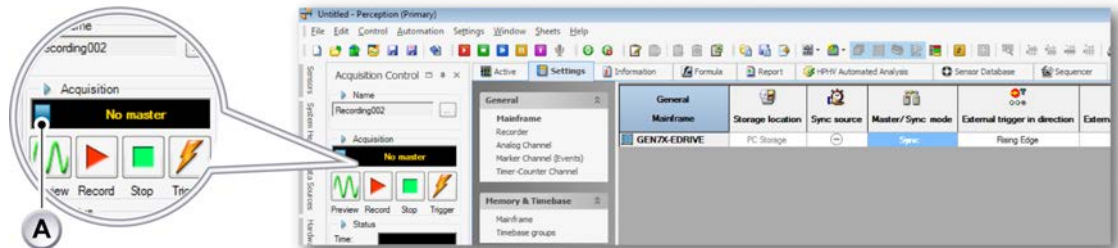

Figure 14.26: Status - Searching for Master
- **Searching for master** (see Figure 14.26)